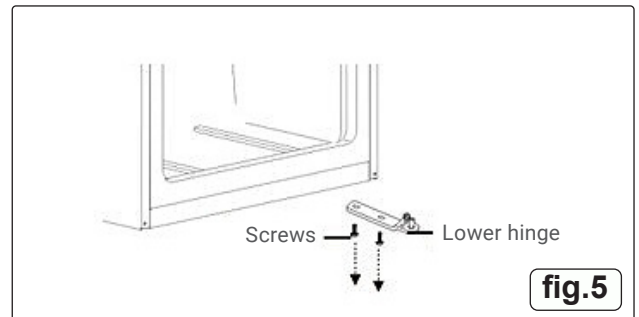

fig.5
Unscrew the bolts securing the lower hinge on the right side of the cabinet, then remove the hinge. Fig.5
7. Reattach the lower hinge to the left side of the cabinet using the previously removed screws. Fig.5